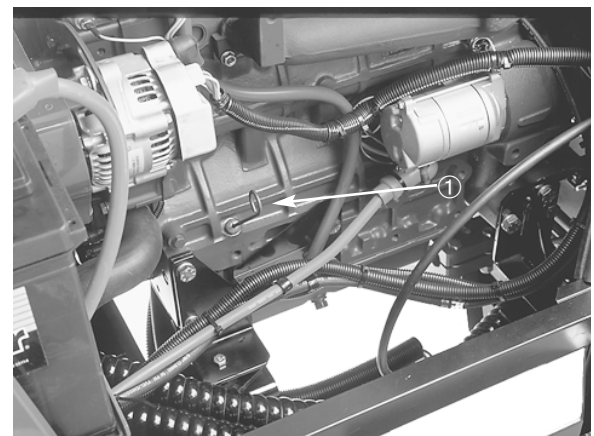

Figure 2
3. Check the dipstick (Fig. 2); the oil level should be up to the FULL mark.